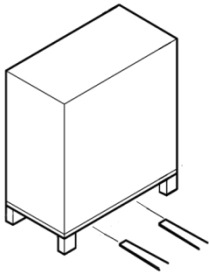

Fig. 5: Transportation with a fork lift
1. Use the fork lift with the forks inserted as shown in fig. 5.